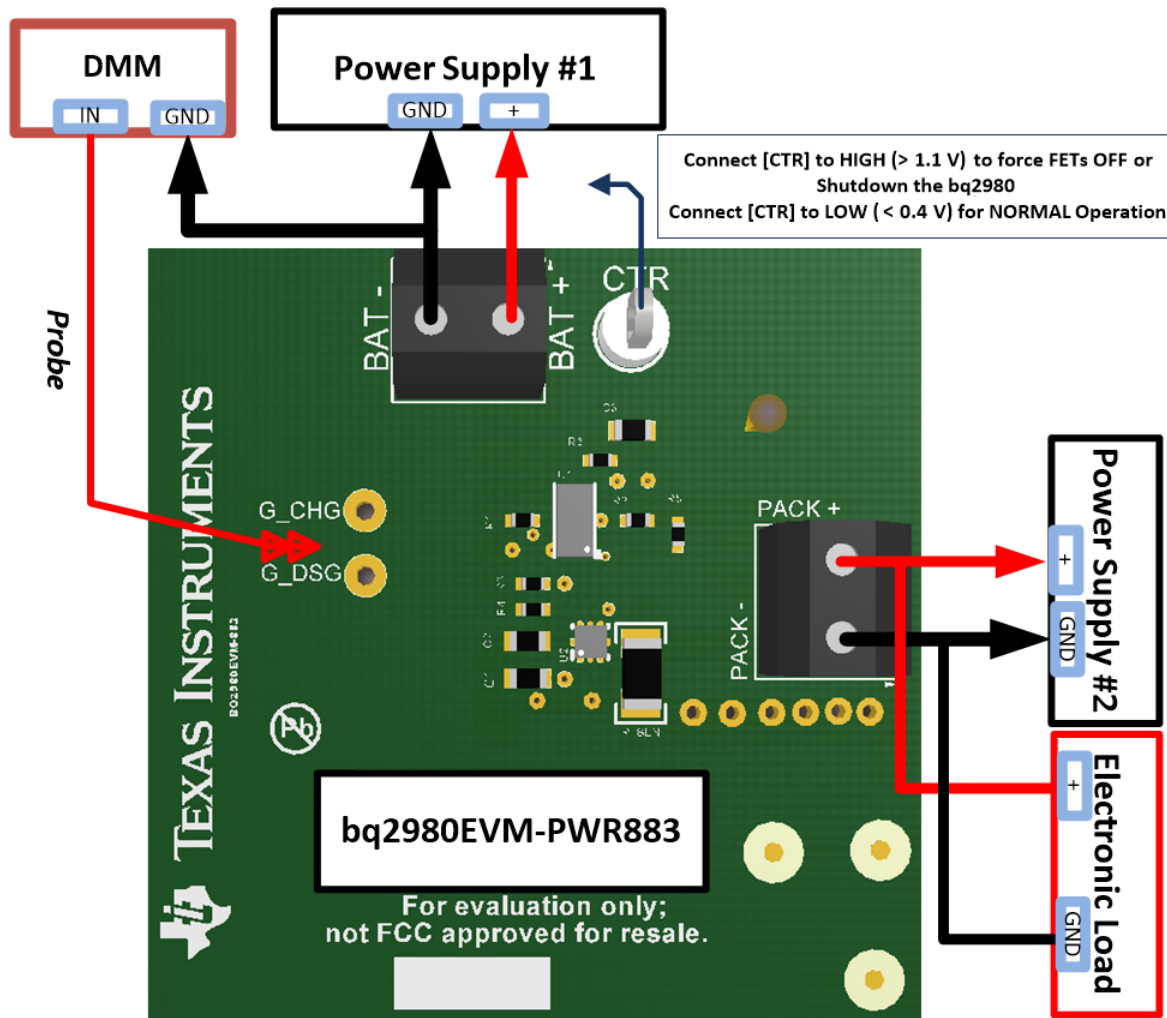

Figure 1. bq2980EVM-PWR883 Connection for Basic Operations
This section covers the hardware connections for the bq2980EVM-PWR883 (see Figure 1).
1. Connect adjustable power supply #1 - (VBAT) as cell connection between the BAT+ and BAT- terminals as in Figure 1.
2. Connect adjustable power supply #2 - (VPACK) as the charger between the PACK+ and PACK- terminals as in Figure 1. The bq2980 will power up (starts up) at SHUTDOWN mode assuming undervoltage fault. If approximately 2 V is on PACK+, the device comes out of the SHUTDOWN assuming zero-voltage charging, hence the CHG FET will be ON. However, the DSG FET will still be OFF because the device assumes undervoltage fault.
3. Connect electronic load between the PACK+ and PACK- terminals, as required, refer to Figure 1.